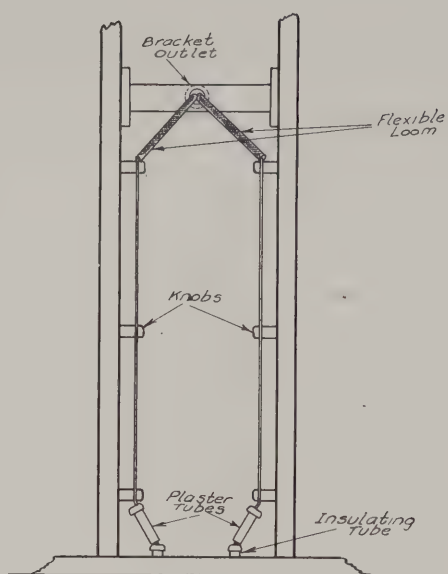

Fig. 1. Knob and Tube System of Wiring
*Knob and Tube Wiring.* Briefly, the "Knob and Tube" system consists of supporting the wires by means of porcelain knobs on horizontal or vertical runs, and by means of porcelain tubes when passing the wires through floors, studs, etc. Split knobs are used for the purpose, so that the wires can be drawn taut when clamped in position. There is then no possibility of the wires' sagging and touching the woodwork. Every precaution is taken to thoroughly insulate the wires from one another, and wherever they must come within touching distance, such as when led into a switch box or outlet, flexible loom tubing, having special insulating properties, is used to encase each wire. The general scheme of installing a "Knob and Tube" system is illustrated in Fig. 1, which shows the wires rising through the floor to a wall bracket outlet supported between the studs. This method of wiring, compared with others, is relatively cheap as far as concerns material, but it requires more labor than the Armored Cable method, since both wires must be separately insulated and each must have holes drilled for it when passing through obstructions. Furthermore, it is subject to the depredations of mice and rats and accidental injury when effecting repairs to the house. While in past years it was the most widely used method, it is now rapidly giving way to the Armored Cable method, which costs practically the same in these days of high labor and which offers more protection and better means for concealment in places where space is limited, and hence is frequently used.